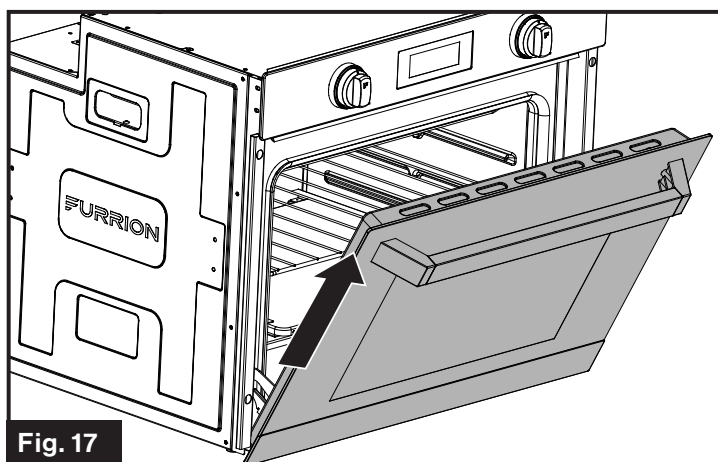
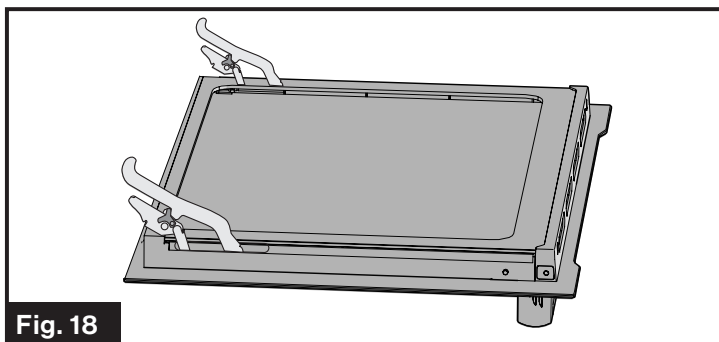

Fig. 17
Fig. 18
5. Holding the door firmly on the left and right sides using both hands, pull the door straight out of the hinge slots. (Fig. 17 and Fig. 18)